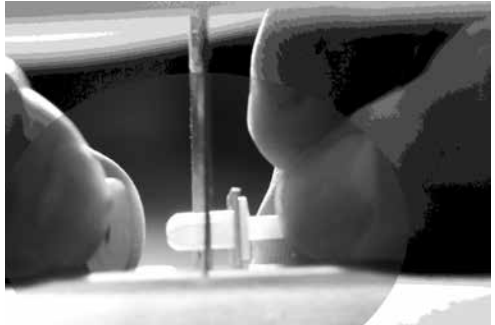

Fig.8 - Attach linkage strip to louver using nylon linkage pin assembly
8. Lift the louver vane above the vane that was just replaced to access the linkage strip and linkage arm. (**Fig.8**)